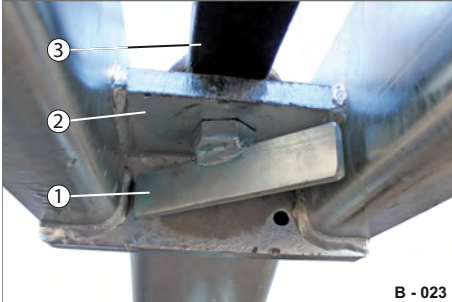
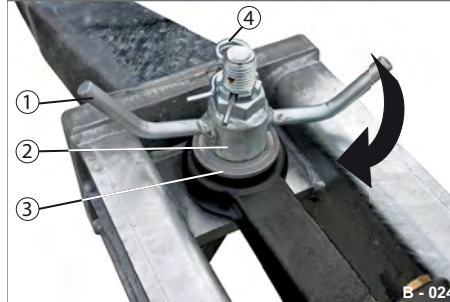

Fig. 22 Towing eye D40 locked at top
Fig. 23 Securing towing eye (D40)
► Insert the fastening bolt (Fig. 22/1) from below through the bracket (Fig. 22/2) and the towing eye (Fig. 22/3).
- Engage the shim rest (Fig. 23/3) and the spacer (Fig. 23/2) from above on the fastening bolt of the towing eye (Fig. 22/3).
- Screw the wing nut (Fig. 23/1) onto the fastening bolt.
- Stick the spring pin Fig. 23/4) (if present) through the bore hole and the crown nut of the wing bolt (Fig. 23).